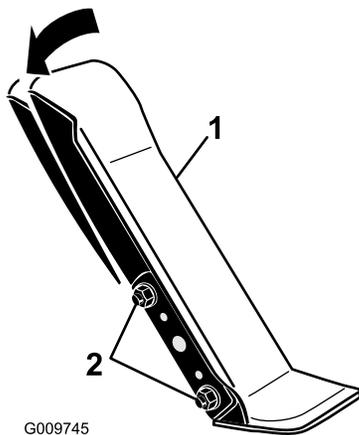

Figure 88
1. Loosen the 2 nuts and bolts securing the left side of the traction pedal to the bracket (Figure 88).
2. Pivot the pedal to the desired operating angle and tighten the nuts (Figure 88).